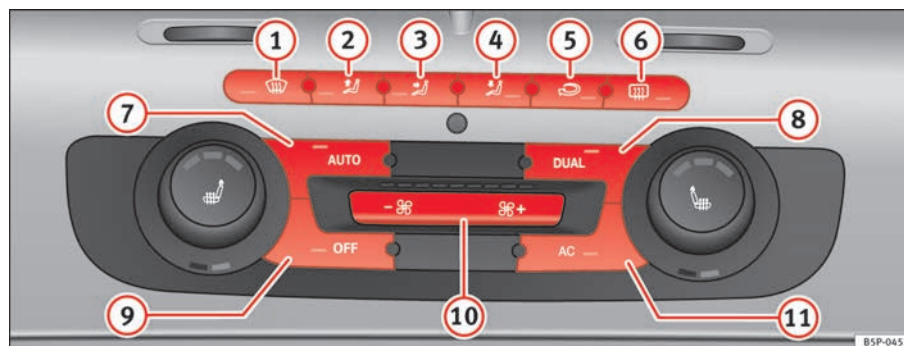

Fig. 129 On the dash panel: 2C Climatronic controls
- Turn the temperature control knobs ⇒ fig. 129 ⑨ or ⑭ in order to adjust the temperature on the left hand side or the right hand side respectively.
- Press the  ⇒ page 159, fig. 129 button. “AUTO High” is shown on the radio display (high fan speed).
- Press the  button again ⇒ page 159, fig. 129. “AUTO Low” is shown on the radio display (low fan speed).